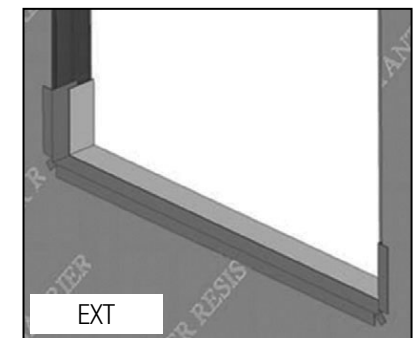

FIG. 9
F) Flashing tape must cover the entire sill plate. If needed, apply an additional flashing piece over the first one (start from the exterior and work toward the interior). Maintain a minimum 1" overlap. (Fig. 9)